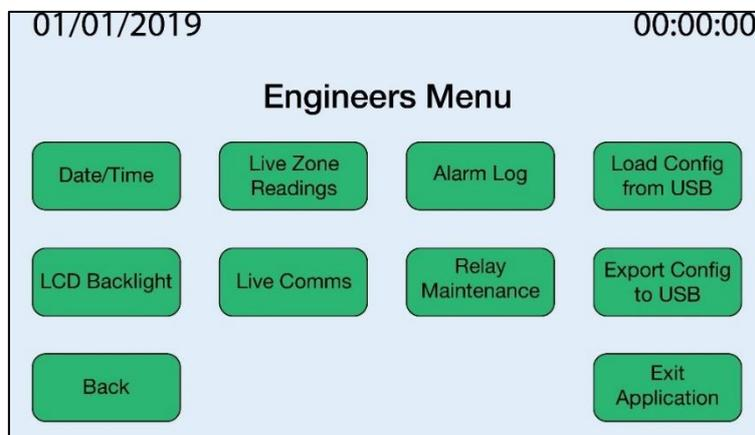
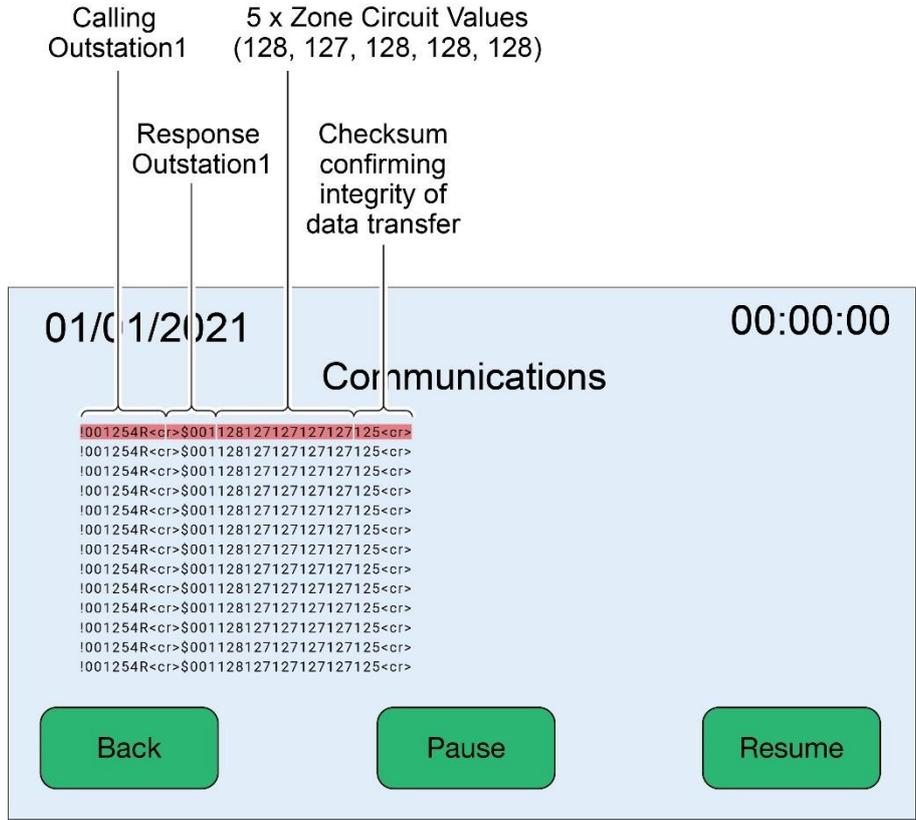
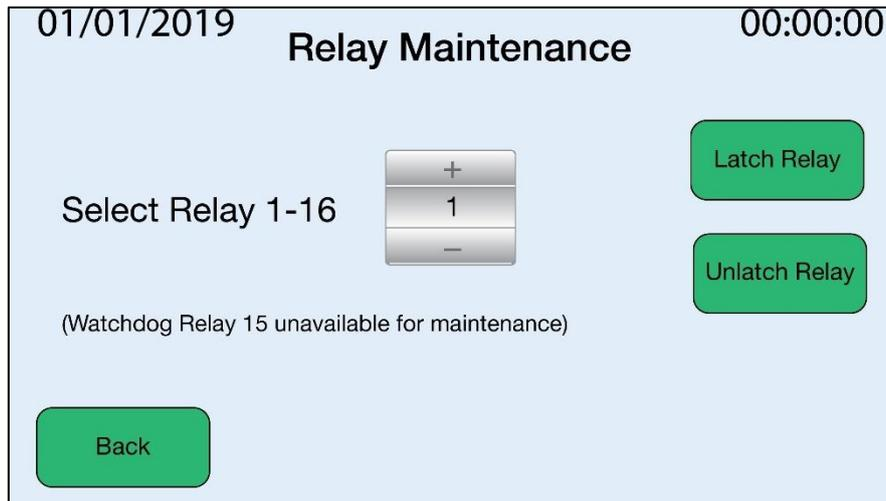

Figure 33: EMS Engineers Screen with Additional Options
Figure 34: Live Comms Screen
Figure 35: EMS Relay Maintenance Screen
3. The Engineers Menu will display (**Figure 33**).
2. Tap the **Live Comms** button (Figure 33). The live communications screen will display (Figure 34).
The **Relay Maintenance** screen (Figure 35) is used to test the operation of the output relays for the Master Panel and its ancillary devices by latching and unlatching them:
2. Tap the **'Relay Maintenance'** button (Figure 33). The Relay Maintenance screen will display (Figure 35).